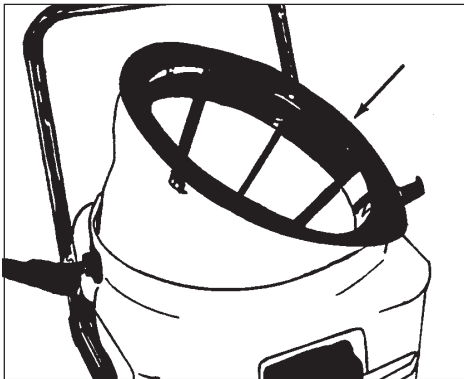

Figure 9
3. Lift the cloth filter bag. See figure 9.